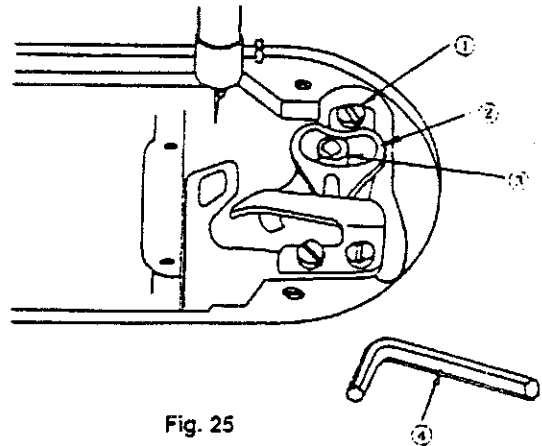

Fig. 25
- 2) Remove hinge screw ③ (Fig. 25) using 3 mm (0.118") Allen key ④ (Fig. 25).
- 3) Remove forked hinge screw ① (Fig. 25). Lift forked base ② for knife (Fig. 25), and remove the moving knife pin from the forked base for knife.